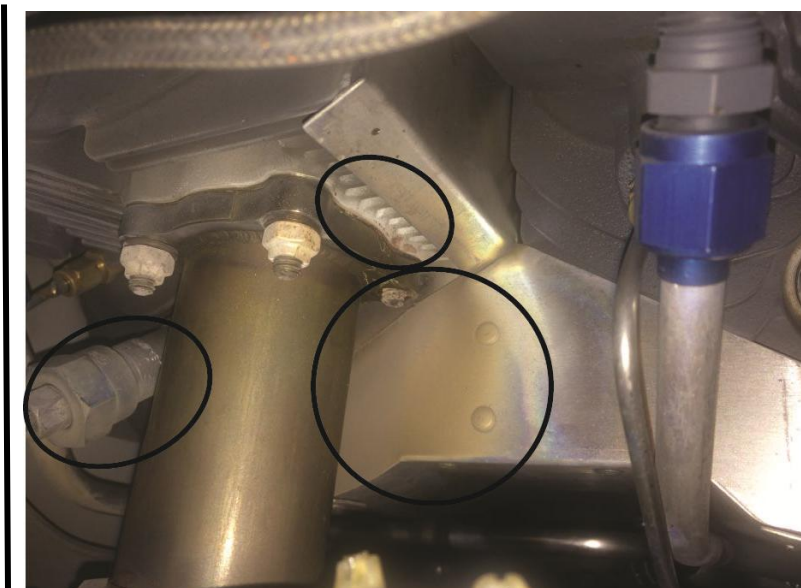

Figure 5
REASON FOR REVISION: Clarification to the TIME OF COMPLIANCE and a revised Figure 5 to better highlight the typical staining associated with exhaust gas leakage.
- Examine all cylinder exhaust flanges (Figure 5) for damage, distortion, or signs of exhaust gas leaking past the gasket, especially at the #2 cylinder. Indications of a flange gasket leak are burnt paint around the exhaust flange bosses or powdery white to light brown or black residue near the leaks, on the spark plug, and the baffle. If the flange or pipe is distorted, damaged, or there are signs of exhaust leaking past the gasket, contact Lycoming Engines' Product Support.